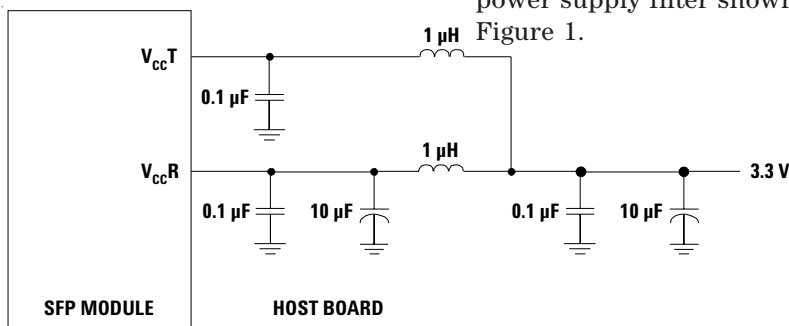

Figure 1 - MSA required power supply filter
The HFCT-5710L/LP can withstand an injection of PSN on the V_{CC} lines of 100 mV ac without a degradation in eye mask margin to 10% on the transmitter and a 1 dB sensitivity penalty on the receiver. This occurs when the product is used in conjunction with the MSA recommended power supply filter shown in Figure 1.
2. MSA filter is required on host board 10 Hz to 1 MHz. See Figure 1 (Page 2)